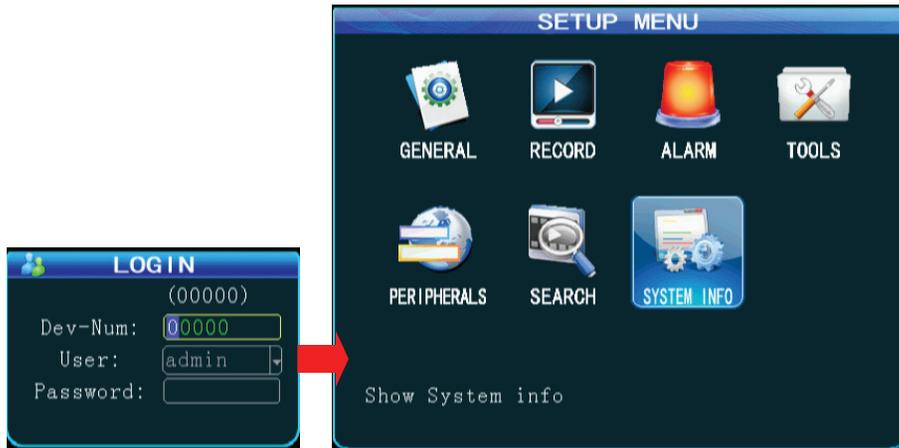

FIG. 13
The setup has seven (7) options including: General, Record, Alarm, Tools, Peripherals, Search and System Info (as shown in FIG 13). The following section will individually introduce individual settings.